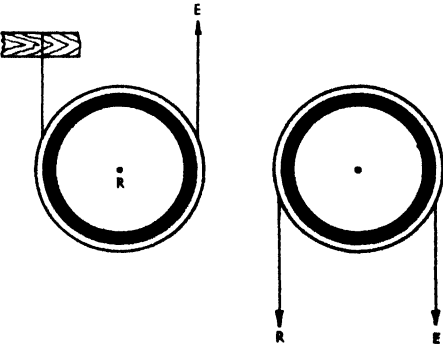

FIG. 90. PULLEYS AS LEVERS.
2. A single fixed pulley and single movable pulley may be considered as levers. In Fig. 90, draw lever diagrams within the pulleys, labelling F, E and R clearly. Tell to which class of levers each belongs.